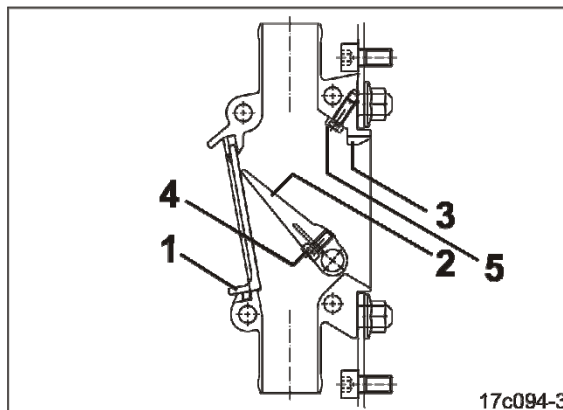

Fig. 193
2. Push up the assembly window (Fig. 193/1) and take out of the flap box from the front.
3. Press the flap (Fig. 193/2) against the stop (Fig. 193/3) and screw to the shaft. Do not tighten the hexagon socket head screw (Fig. 193/4) too tightly in order not to deform the flap.
4. Tighten the locking screw (Fig. 193/5) tension-free so that the flap can pass the screw head without obstruction.